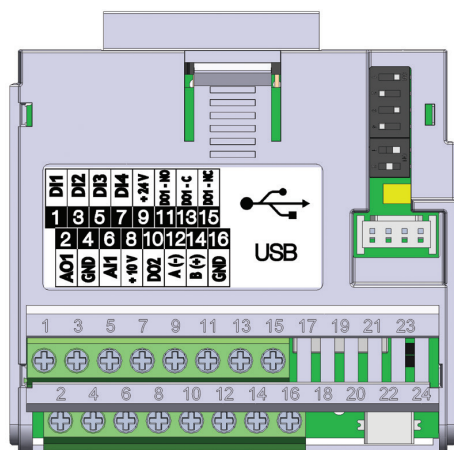

Figure 17.3: Plug-in module CFW500-CUSB
The CFW500-CUSB plug-in module has Serial (1) interface through RS485 port at terminals 12(A-) and 14(B+), as well as the Serial (2) interface through USB port at standard connector mini USB (mini B), see Figure 17.3 on page 17-1.